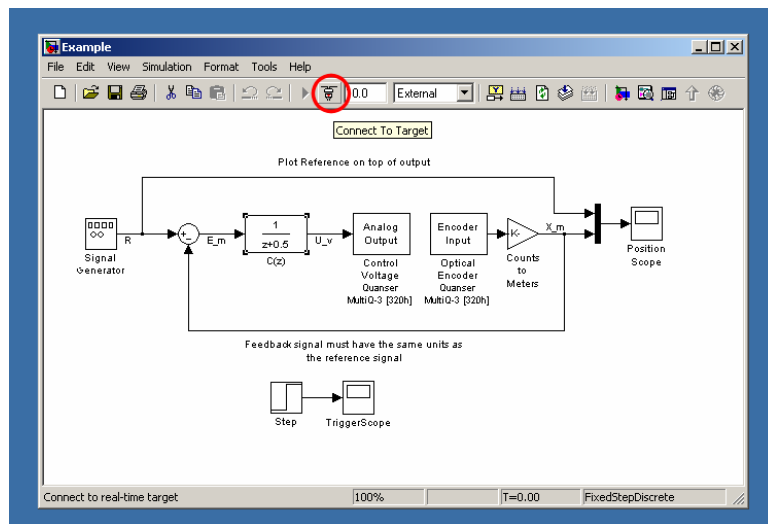

Figure 12: Connect to RT Windows Target
8. Lastly, the model must be set to EXTERNAL mode. In the model toolbar to the right of the final simulation time and the play button, is a pull down menu that usually says NORMAL, click the menu and select EXTERNAL. See Figure 12.